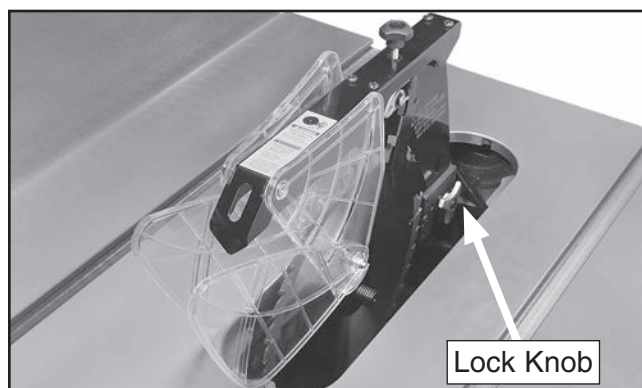

Figure 63. Location to secure blade guard.
3. Insert the spreader into the bracket slot and tighten the lock knob shown in **Figure 63** to secure the spreader.